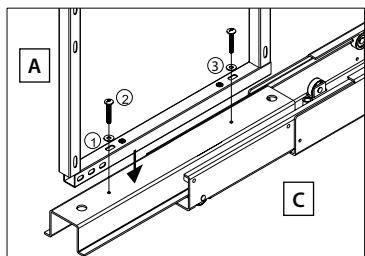

fig. 5
- 5)** The bottom of the frame (A) sits on top of the bottom slide (C) as shown in figure 5. Use M6 screw (#2) and washer (#3) to attach.